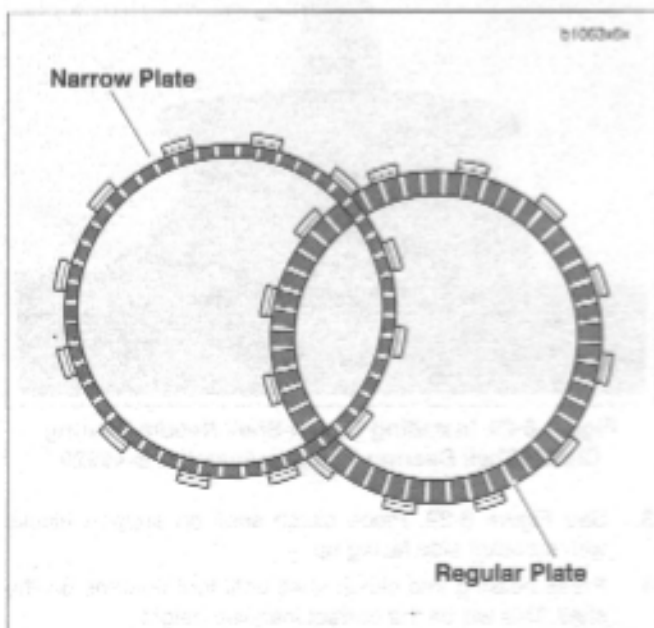

Figure 6-31. Friction Plates
2. See Figure 6-31. Install the narrow friction plate on the